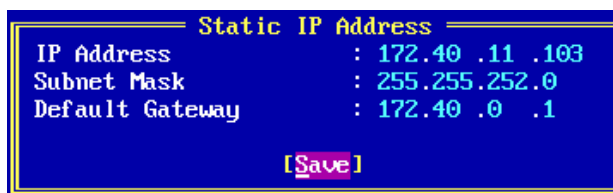

Figure 8-14 Static IP Address Dialog Box for IPv4
3. Enter the subnet mask. The subnet mask provides a way to segment networks. All hosts (iSCSI initiators or targets) on the same physical network usually have the same subnet mask. For example, Figure 8-14 shows the initiator in the subnet 255.255.xxx.xxx. All the hosts (initiators or targets) in a sub-network will have the same subnet mask.